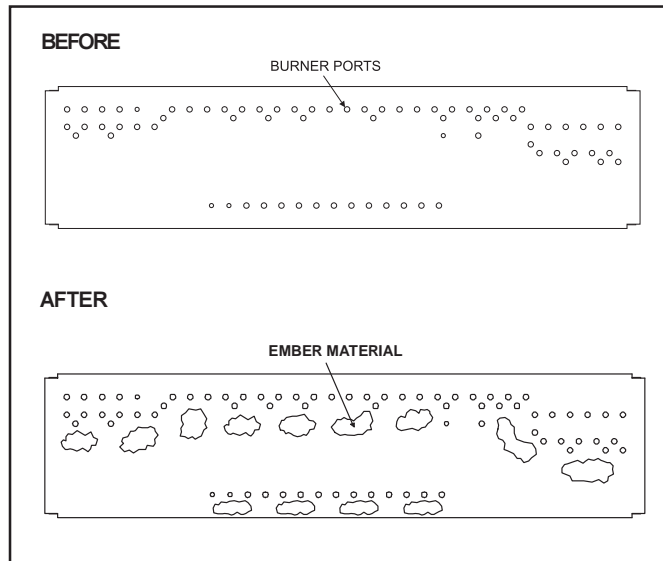

Figure 45. Placement of the Ember Material
- Place a dime size piece of Glowing Embers (050-721) near port holes in burner top (see Figure 45).
- Cover the top of the burner with a single layer of ember material (see Figure 45). Then sprinkle GE-93 on top of the burner.